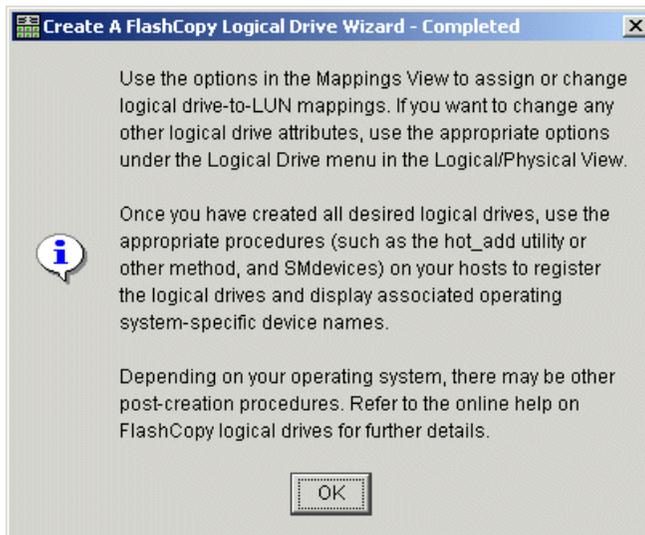

Figure B-11 Create A FlashCopy Logical Drive Wizard - Completed window
9. The Create A FlashCopy Logical Drive Wizard - Completed window will follow, as shown in Figure B-11. Click **OK**.